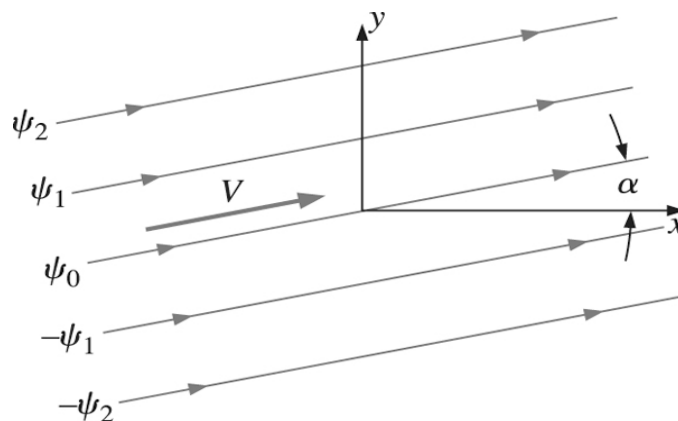

Figure Q1[b]
- [b] A uniform stream of speed V is inclined at angle α from the x -axis (as in Figure Q1[b]). The flow is steady, two-dimensional and incompressible. The Cartesian velocity components are $u = V \cos \alpha$ and $v = V \sin \alpha$. Generate an expression for the stream function for this flow.**